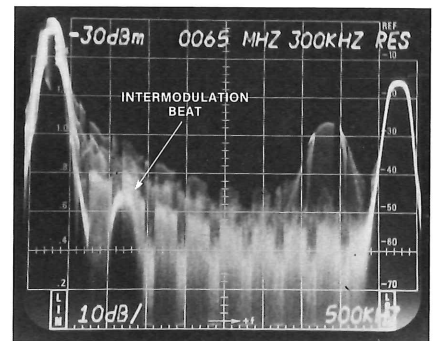

Figure 2-4. Low level intermodulation beat.
2. Sometimes a beat can be detected although its level is below noise level. The noise around a beat contains a bump or hollow spot as shown in figure 2-4.